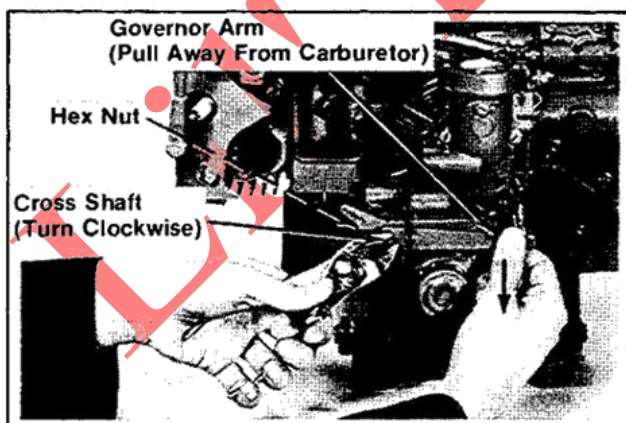

Figure 11-55. Adjusting Governor Arm/Cross Shaft.
7. Governor Adjustment. Refer to Figure 11-55.